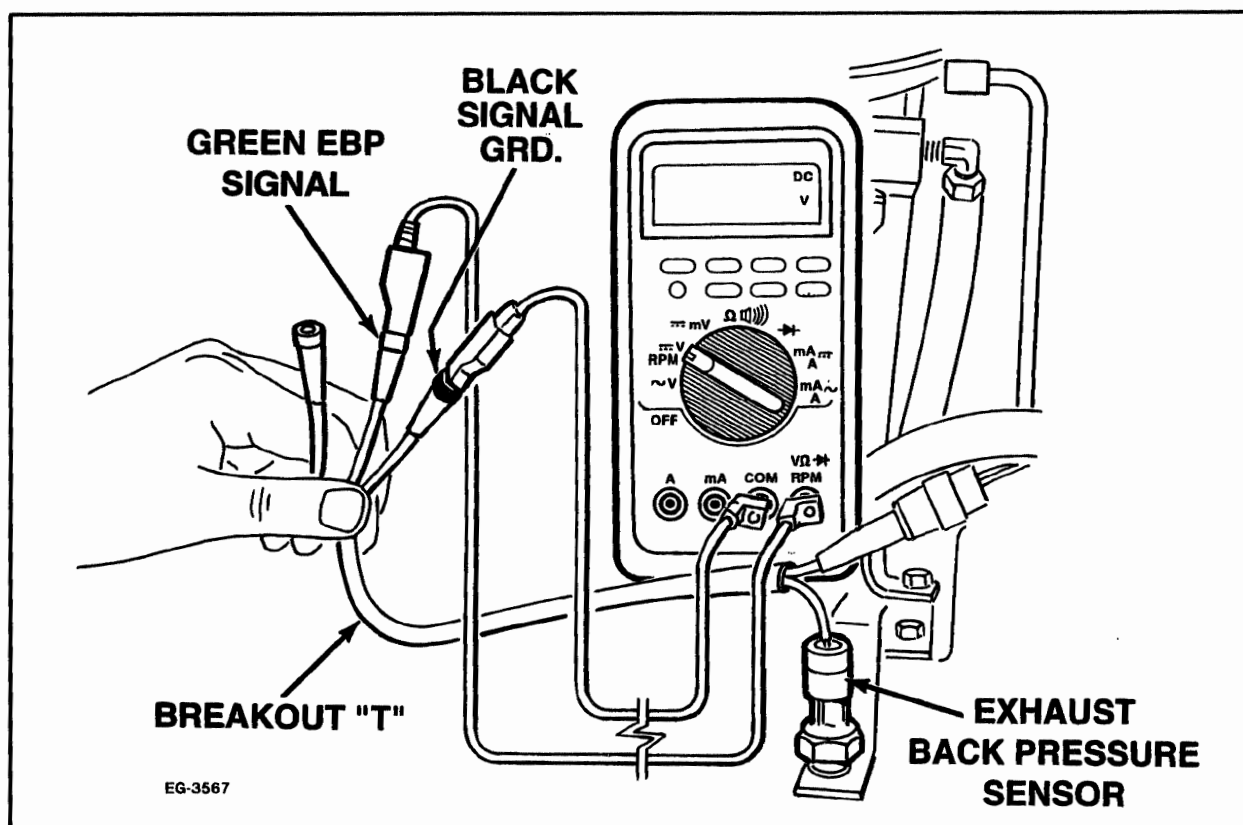

Figure 2.3-9. – Measuring Exhaust Back Pressure (Voltage)
1. If the suspected exhaust restriction is not visually evident, an exhaust back pressure measurement is necessary. Install the breakout box or "T" (**Figure 2.3-9.**) in line with the EBP sensor which will allow access to the back pressure voltage signal.